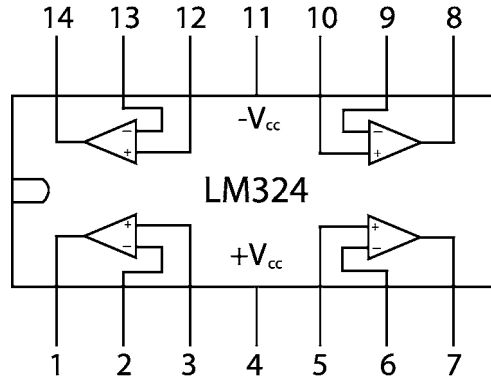

Figure 6: Schematic of the LM324 quad op-amp.
Op-amps are readily available as inexpensive integrated circuits (ICs). The op-amp IC used in the Mechatronics lab is the LM324 quad op-amp. This is a 14-pin dual in-line package (DIP) chip that consists of four op-amps. When plugged into an electrical breadboard and provided the appropriate $\pm V_{cc}$, the chip provides four independent op-amps that can be used to form a wide variety of useful circuits. A schematic of the LM324 is included in Figure 6. This type of schematic is known as a *pin out*, and it indicates how the pins of the DIP correspond to the inputs and outputs of the four op-amps. Whenever these types of IC devices are used, it is important to refer to the data sheet provided by the chip manufacturer that describes the device's characteristics and limitations. The data sheet for the LM324 is available on the class web page on the lab handouts page.
- Build the circuit you just designed. Refer to Figures 6 and 8 to help with wiring the circuit—paying special attention to the pin out diagram of Figure 6. Use the ground from the bench power supply for the appropriate as the common ground for this circuit. As before, all equipment and circuits should be connected to that one ground point.